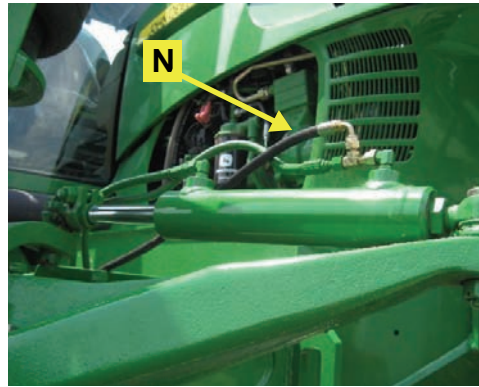

Figure 7a: Installed steering hose, right cylinder
- a. Connect steering hose (O) to the run-tee (E) on the left steering cylinder and steering hose (N) to the run-tee (E) on the right steering cylinder. Route the hoses with other machine hoses as shown. Connect the open ends of the hoses to the A and B ports on the Automated Steering Block. (Figure 7a, 7b, 7c, 7d and 7e)